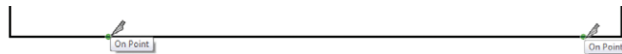

Figure 13.29 The Split tool breaks lines into separate segments, which can have different Shape Style properties.
3. Activate the Split tool and click on the two endpoints as shown (Figure 13.29).